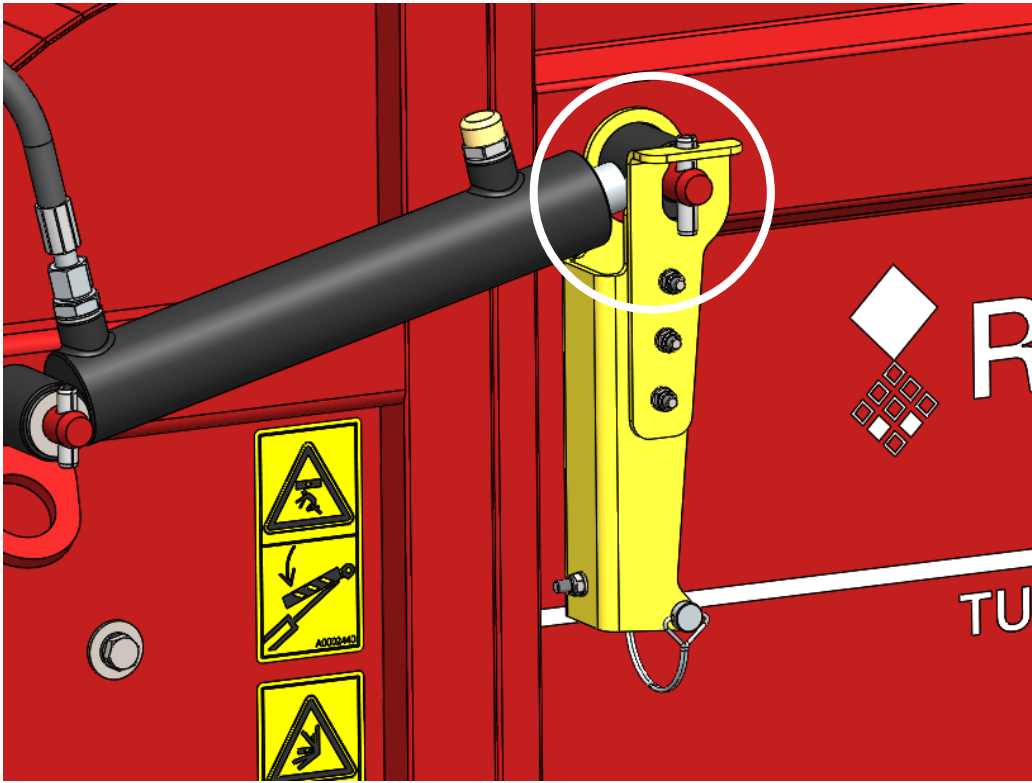

Fig. 14
12. Unlock the cylinder locks and rotate them back to the working position. Ensure that the lock is secured by the pin (Fig. 14).